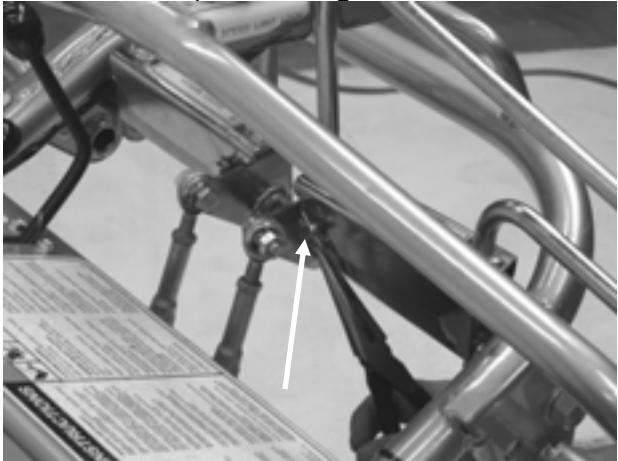

Figure 32
1. Remove the hairpin cotter **Figure 32**.